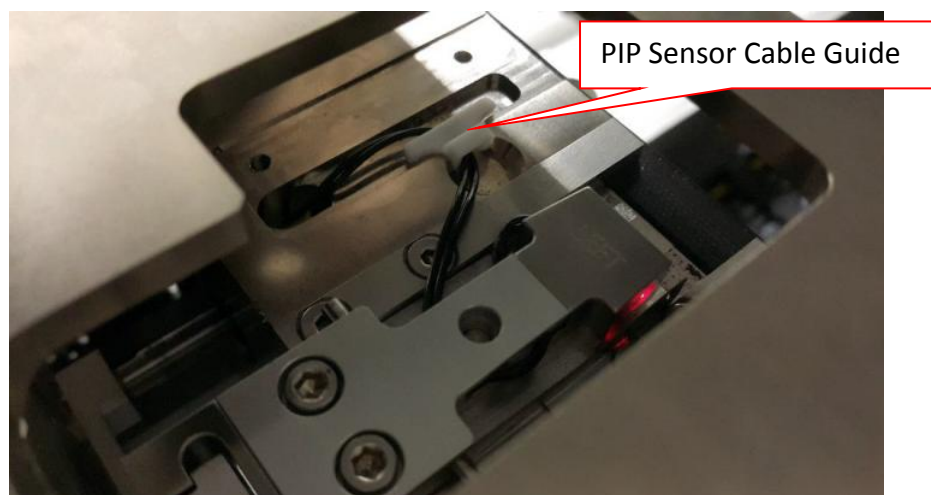

Figure 5 PIP Sensor Cable Guide Removal
6. Remove PIP Sensor Cable Guide as shown in Figure 5